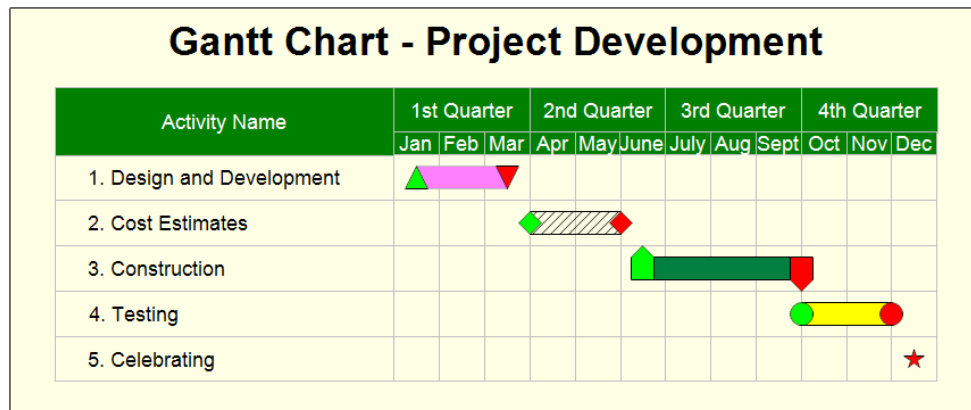

Figure 3: Sample GANTT chart showing the planning phase of a project.
- 2) Each group will prepare a project timeline using a Gantt chart as shown in Figure 3. Each action item should be clearly listed, together with an expected start and completion date. Seeing as each group will have 3 members, each student's work items should overlap with coincide with the others. Students should show me their project timeline during their 1st progress report on the 28th of October.